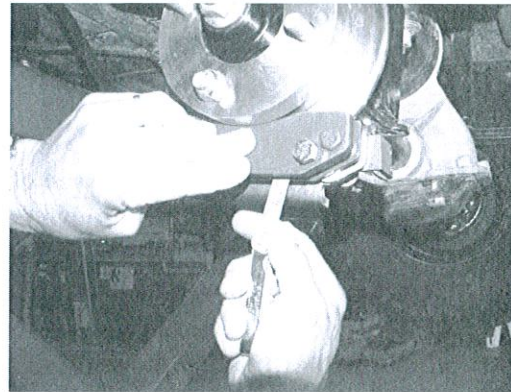

Fig. 16 Check pad clearance of both wheels at the same time.
- a. Insert feeler gauge between back of rotor and inside brake pad in the center of the pad. (See Fig. 16)